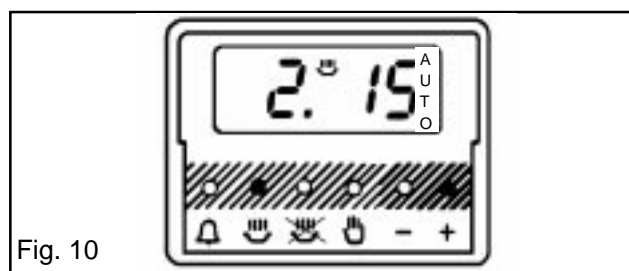

Fig. 10
- iii) To set the length of cooking time, press the cooking hours button () depress the increase control (+) until the required length of cooking time is displayed, e.g. 2 hrs 15 mins as Fig. 10. Depress the decrease control (-) if necessary.